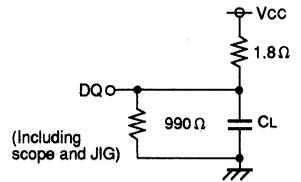

Fig.1 Output load
- Output loads..... Fig. 1, $C_L=30pF$